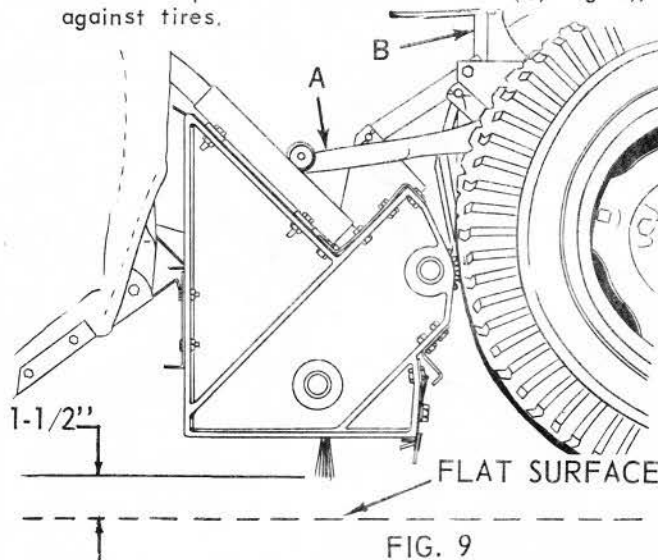
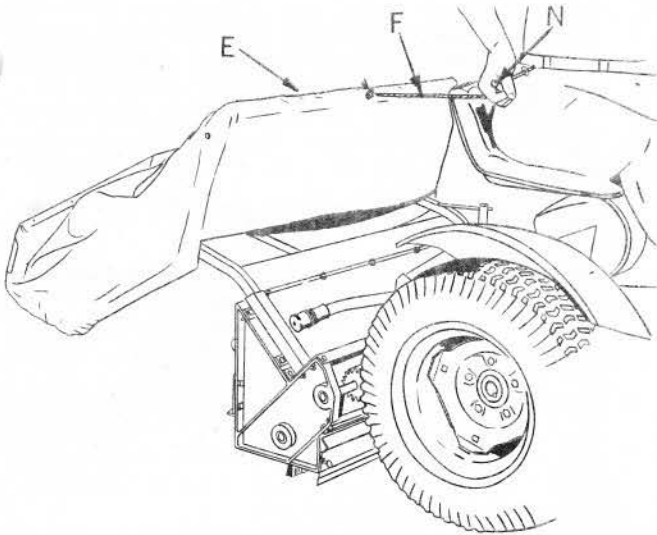

FIG. 9
FIG. 10
1. The catcher basket (E), is dumped by pulling on the rope (F), attached to the rear of the catcher. This rope can be adjusted in the following manner: Move the wooden handle back to the center of the rope and put a knot in the rope to position the handle. Sit on the tractor seat and reach back to grasp the handle (N, Fig. 10). Adjust the position of the handle along the rope at the most comfortable position when reaching for it. Take the end of the rope and drape it around the lift screw and handle (B, Fig. 9), below the handle and make a slip knot. This will prevent the rope from falling into the catcher and interfering with the deposit of material. Remember to untie the rope from the lift screw before attempting to detach the catcher from the sweeper.
2. Swept material can be carried in the catcher basket (with the sweeper in transport position), to a convenient location and easily dumped by pulling on the rope. Release the rope (F), and the catcher basket will return to its upright position.
2. Lower the sweeping height by turning the handle of the lift screw (B, Fig. 9), counter-clockwise. Adjust until tips of the brush touch the surface. Begin sweeping and make fine adjustments in height until the sweeper goes a satisfactory job. Remember to raise sweeper to regular operating height before beginning yard work.